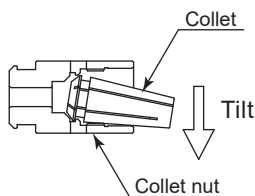
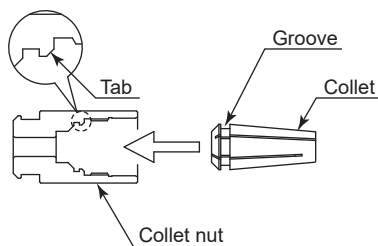

Fig. 9
Fig. 10
- (2) Hold the collet nut in one hand, and tilt the collet to one side to release it. If the collet is not released, try tilting it to the other side. (Fig. 9)
- (3) Hold the collet nut in one hand, and install the collet. (Fig. 10)
If the collet is difficult to install, tilt the collet to one side when inserting it, so that the tabs can more easily be seated in the groove. (Fig. 9, Fig. 10)